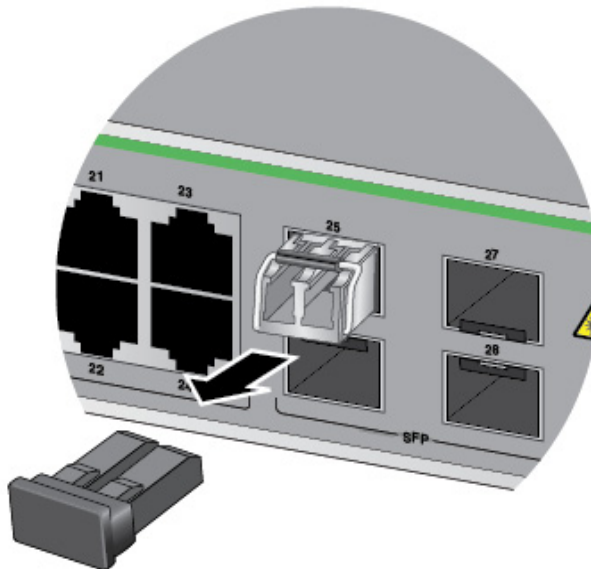

Figure 41. Removing the Dust Cover from an SFP Transceiver
4. Remove the dust cover from the transceiver, as shown in Figure 41.